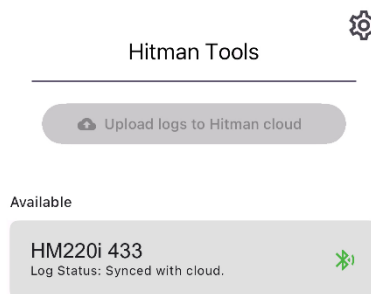
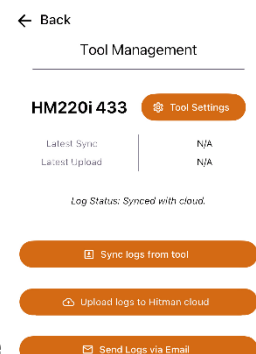

Figure 7: Hitman Sync App Home
Figure 8: Tool Management Page
Your Log Files are stored within the HM220i tool internal memory. Once your device is paired with the HM220i you can upload the stored Log Files to the Sync App (see Figure 8).
- Select the HM220i tool from the "Hitman Tools" page (see Figure 7) and navigate to the "Tool Management page" (see Figure 8)